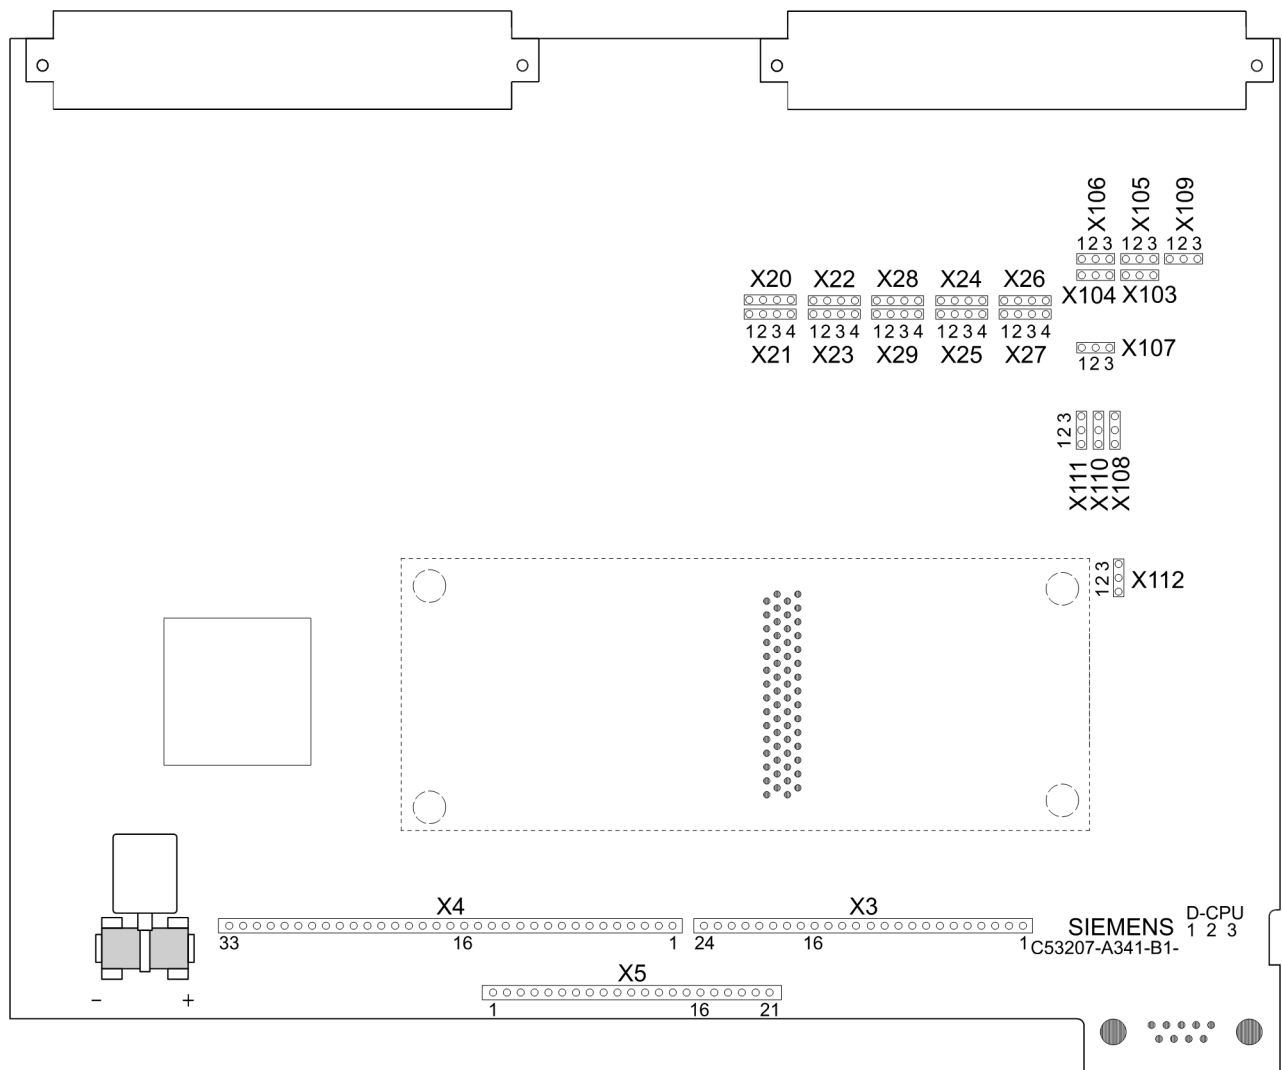

Figure 3-2 Location of the jumpers and the buffer battery on the D-CPU module (central unit)
- ❑ Remove the front plug connectors X3, X4, X5 on the D-CPU module (Figure 3-2, page 33).
- ❑ Change the rated control voltages for the binary inputs of the D-CPU module by relocating the jumpers (shown in Figure 3-2, page 33 and Table 3-2, page 33).
- ❑ Press the battery firmly into its snap-in holder (see Figure 3-2, page 33) on the D-CPU module. **Observe the correct battery polarity!**